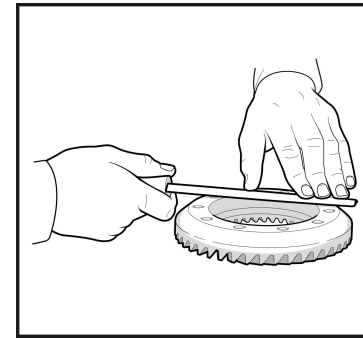

Fig. 13
**2.1** Lightly pass a fine file over the edges of the differential carrier flange and the back face of the ring gear. Burrs may occur during shipping and can interfere with proper gear seating. (Fig. 13)